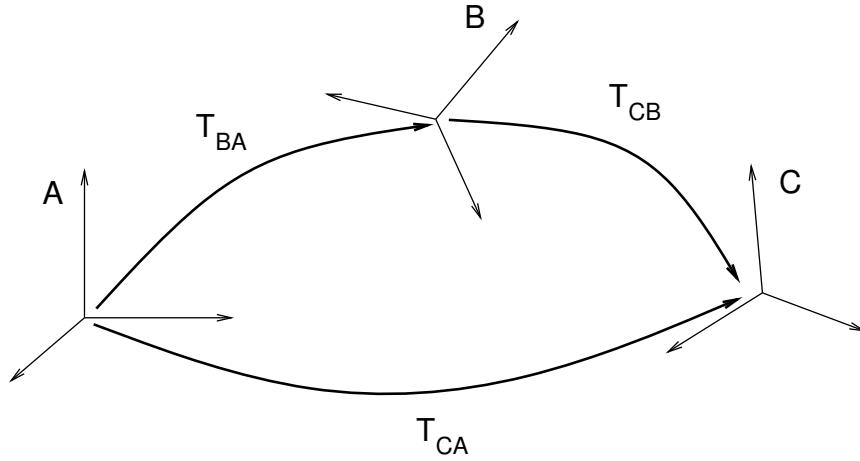

Figure 49: Three coordinate frames A, B, and C and the transforms relating each one to the other.
Next, we consider transform composition. Suppose we have three coordinate frames, A, B, and C, whose orientation are related to each other by \mathbf{R}_{BA} , \mathbf{R}_{CB} , and \mathbf{R}_{CA} (Figure 49). If we know \mathbf{R}_{BA} and \mathbf{R}_{CA} , then we can determine \mathbf{R}_{CB} from
Finally, we consider transform composition. Suppose we have three coordinate frames, A, B, and C, each related to the other by transforms \mathbf{T}_{BA} , \mathbf{T}_{CB} , and \mathbf{T}_{CA} (Figure 49). Using the same reasoning used to derive (45) and (48), it is easy to show that